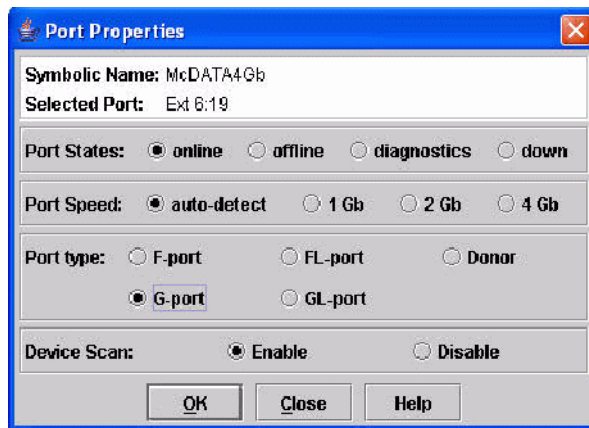

Figure 6-7 Port Properties window
10. From the Port Properties dialog box (Figure 6-7), verify the following settings are true for port 19: